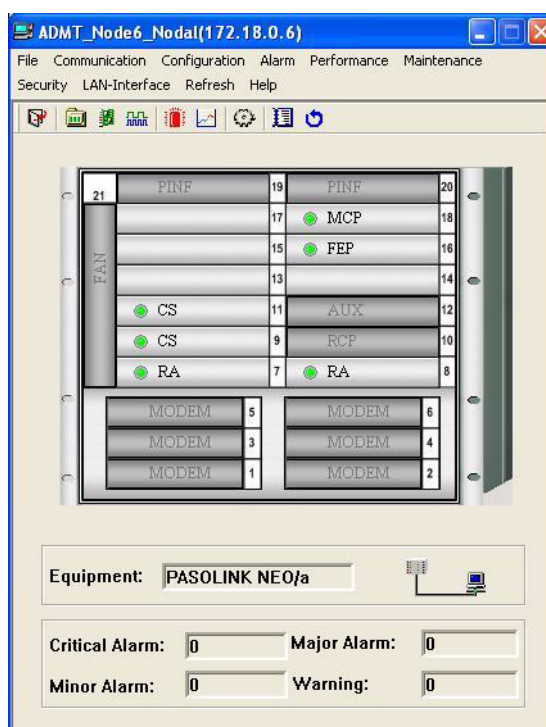

Fig. 4-7-23 ADM Management Tool
- 2 The ADM Management Tool shown in *Fig. 4-7-23* appears: